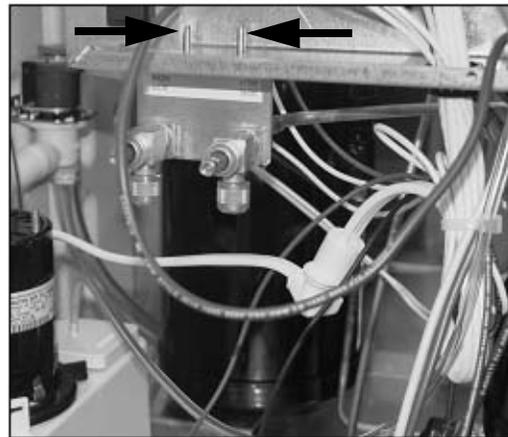

Figure 44.
48. Use 2 hex head screws to attach the service valve bracket to the electrical control box (Figure 44).